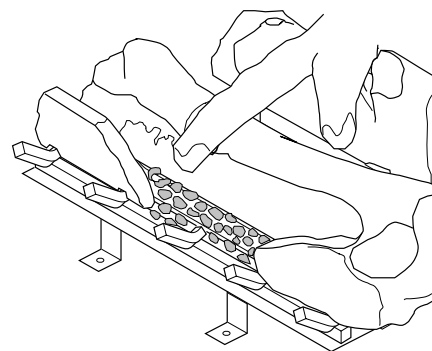

Figure 57 - Placing Ember Material on Burner
6. Pull ember material apart into pieces no larger than a dime. Place these pieces loosely and sparingly directly onto the exposed section of the front burner and along the space between the burner and grate prongs (see Figure 57). This will create the glowing ember appearance as the flame touches the ember material. Do not block air slots by using too much ember material in one area. It is not necessary to use all of the ember material provided.